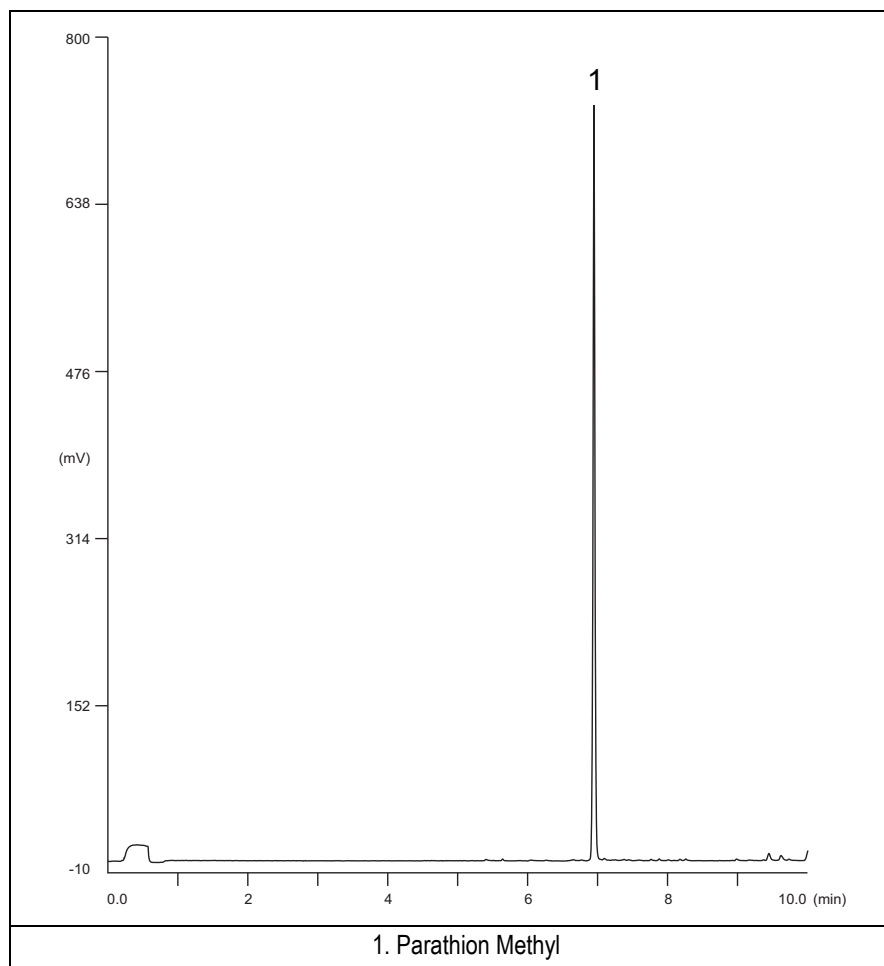

Figure 19-1. FPD-PKD Injection with 526 nm filter
13. When the GC is ready, inject the test mixture and press **START** on the GC to begin the checkout run. The resulting chromatogram should look like the one shown in *Figure 19.1* or *19.2*.